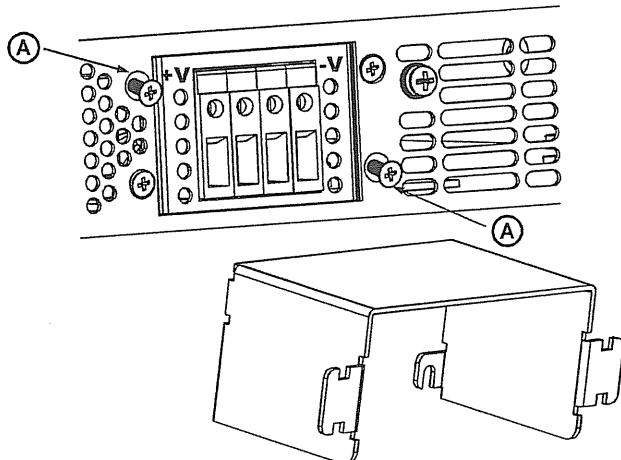

Fig.3-8: Shield assembly
- Loosen the two chassis screws marked "A" halfway as shown in Fig.3-8.
- Assemble the protective shield to the chassis and tighten the two screws to fix the shield to the chassis (see Fig.3-8). Screws tightening torque: 4.8-5.3 Lb-inch.